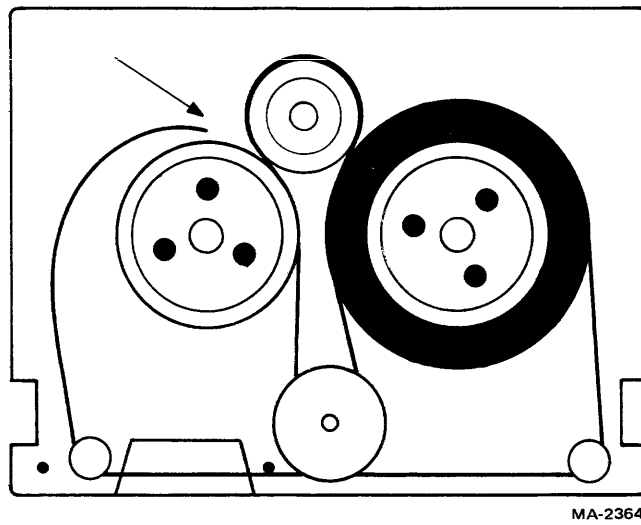

Figure 2-9 Threading the Plastic-Base Cartridge
1. Pull several centimeters (a few inches) of tape off the supply hub and through the tape guides (Figure 2-9).